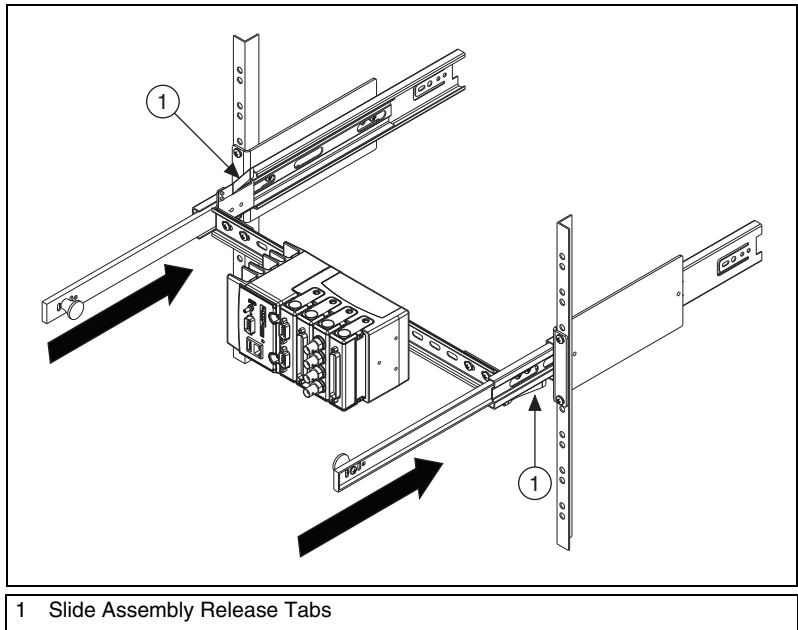

Figure 7. Pushing the Slide Assemblies into the Rack
6. Press the release tabs on the slide assemblies and push the slides back into the rack. The release tabs are located on the top of the left slide assembly and on the bottom of the right slide assembly, as shown in Figure 7. A friction detent holds the slides in the closed position.